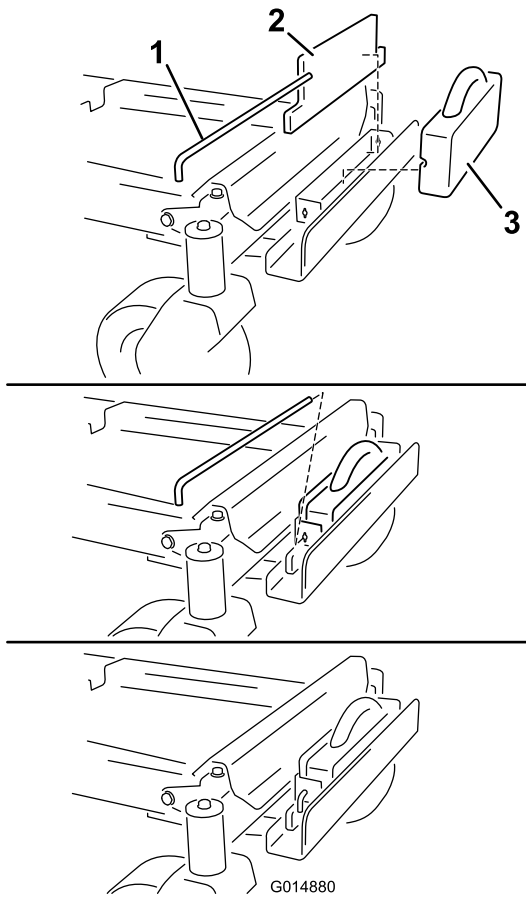

Figure 9
6. Install a flat weight to the holding bracket and move it rearward, flush with the bracket (Figure 9).
7. Install a suitcase weight in front of the flat weight (Figure 9).
8. Secure the weights to the bracket with a keyed cross bar (Figure 9). Install the bar and rotate it 90 degrees downward to lock it in place.